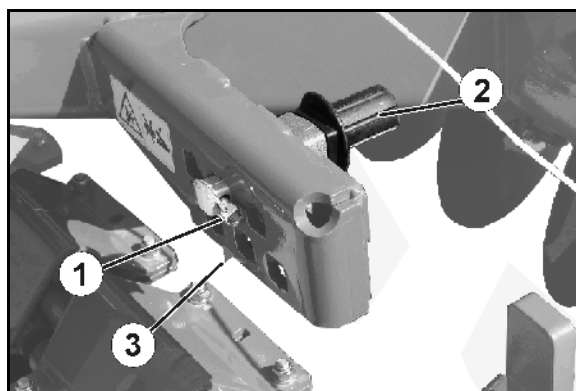
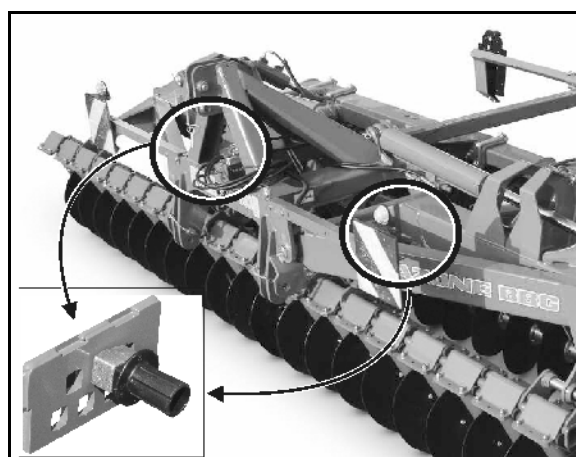

Fig. 27
Fig. 28
6 insertion holes are available for this purpose. (Fig. 27).
3. Release clip pins (Fig. 27/1 and Fig. 28/1).
4. Insert eccentric pins (Fig. 27/2 and Fig. 28/2) into the desired insertion hole.
- A preferential insertion hole is marked with an arrow (Fig. 27/3).
- **Catros 4001-2 to 6001-2** have one possible disc offset setting for each boom (Fig. 28):